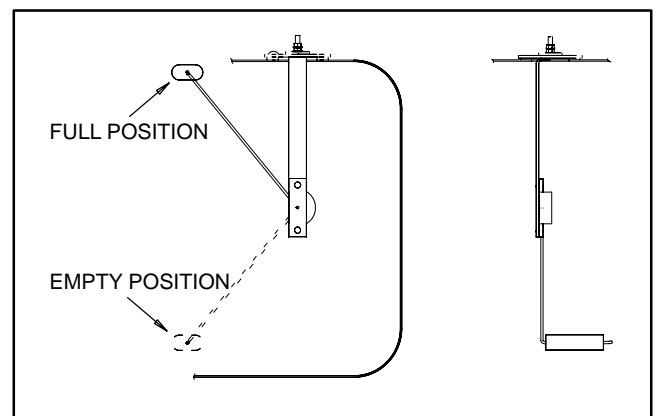

Figure 51
6. Check resistance of the sender with a multimeter (Fig. 51):